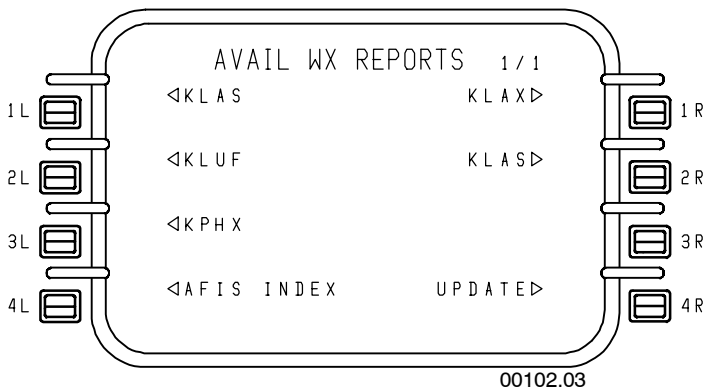

Figure 6-50
- **AVAIL WX REPORTS 1/1** – Figure 6-50 is available from the AFIS INDEX or from the LOAD WX/WINDS page. It is available only when the disk contains weather data or when a report has been received.